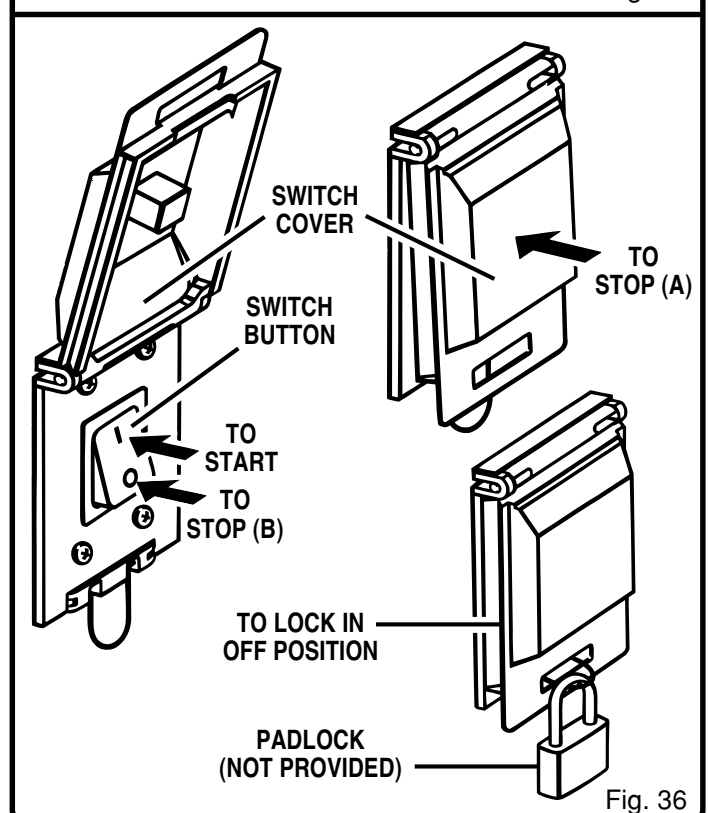

Fig. 36
- To turn saw **OFF**, (A) press or push outside of switch cover, or (B) lift switch cover and press switch button. See Figure 36.
**Note:** To prevent unauthorized use, lock your saw in the **Off** position with a padlock as shown in figure 36.